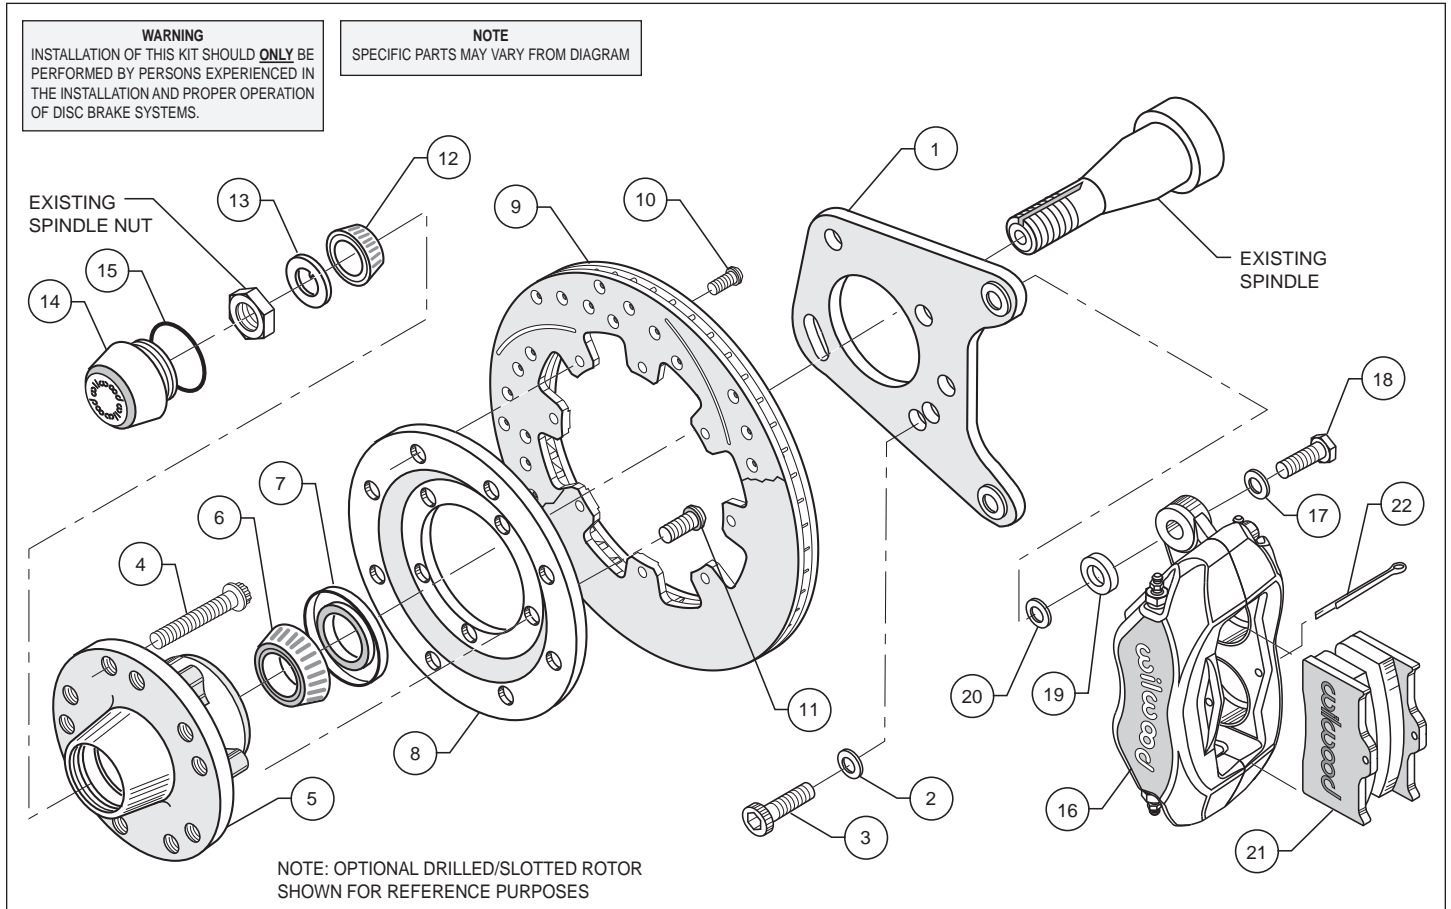

Figure 1. Typical Installation Configuration
- Position the caliper mounting bracket (1) on the spindle. **NOTE:** Be sure the heads of the caliper bracket (1) insert nuts are facing outward toward the wheel. Place one washer (2) on each of the three caliper bracket bolts (3). Mount bracket to the dust plate face of the spindle and align the three 3/8-16 holes in the spindle with the corresponding holes in the bracket (1). Apply red *Loctite*® 271 to all three bolt threads (3) and install. Torque bolts (3) to 22 ft-lb.
- Install wheel studs (4) into the hub (5). Torque to 77 ft-lb. **NOTE:** There are two lug patterns of five holes each in the hub (5 x 4.50 and 5 x 4.75). Make sure of the correct hole pattern for the wheel application before installing the studs into the hub.
- Orient the rotor (9) and the rotor adapter (8) as shown in Figure 1. Attach the rotor to the adapter using bolts (10). Using an alternating sequence, apply red *Loctite*® 271 to the threads, and torque to 25 ft-lb.
- Mount the adapter/rotor assembly (8/9) to the hub (5) using bolts (11), as shown in Figure 1. Using an alternating sequence, apply red *Loctite*® 271 to the threads, and torque to 55 ft-lb.
- Pack the large inner bearing cone (6) with high temperature disc brake bearing grease (available from your local auto parts store) and install into the backside of the hub (5).
- Install the grease seal (7) by pressing into the backside of the hub (5).
- Pack the small outer bearing cone (12) with high temperature disc brake bearing grease and install into front of hub (5). Slide the hub assembly (5, 6, 7 and 9) with outer bearing cone (12) onto the spindle. Secure using spindle washer (13), stock adjusting nut and nut locking device. Adjust bearings per Original Equipment Manufacturer (OEM) specifications.